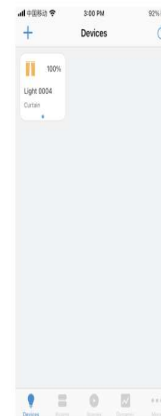
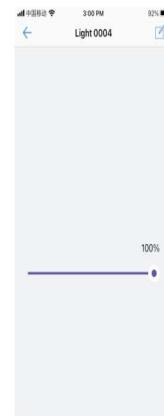

Figure 7
Figure 8
6. Once device is added, tap the controller's icon to enter the level control interface, then you can control it through the APP. (as shown in **Figure 7** & **Figure 8**)